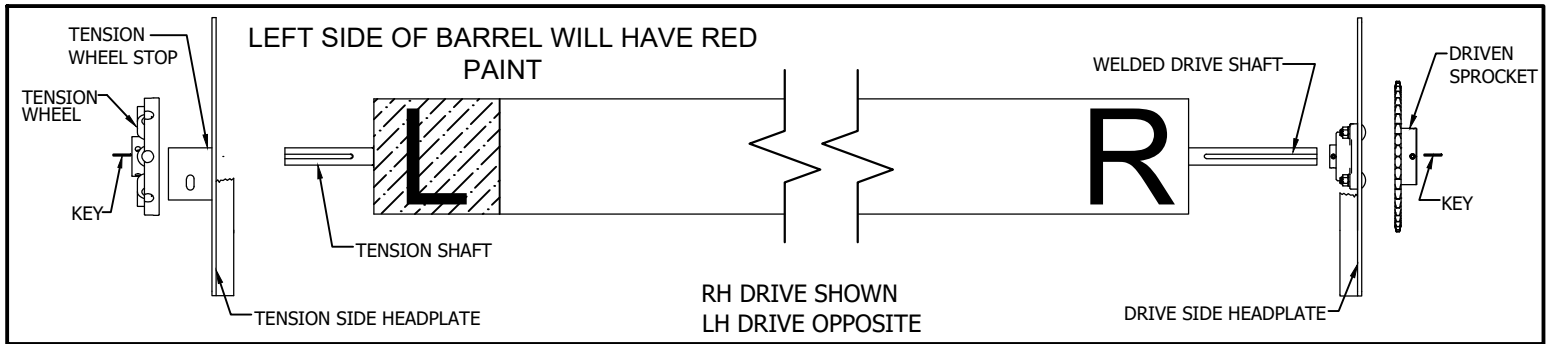

FIGURE 11
- Install sprocket and key onto drive shaft and tighten set screws on sprocket as shown in Figure 11.